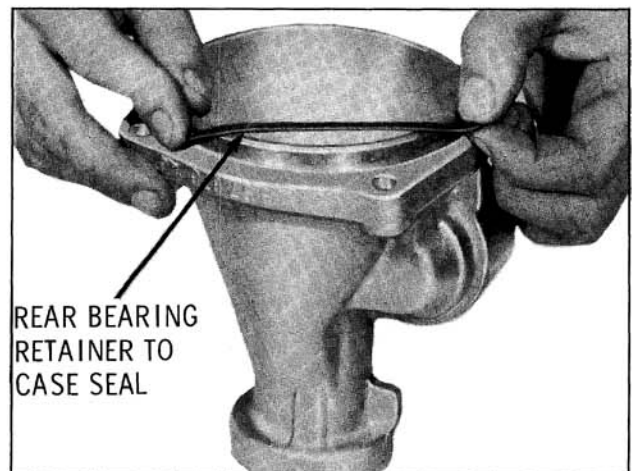

Fig. 6-524 Installing Rear Bearing Retainer to Case Oil Seal
1. Install rear bearing retainer to case oil seal. (Fig. 6-524)